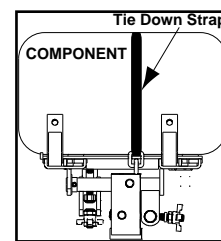

Fig. 4: Strapping component
- ⚠ **Secure component to lift platform using tie down strap and ratchet** (Fig. 4). Refer to "Tie Down Ratchet Operating Instructions" section of this manual.